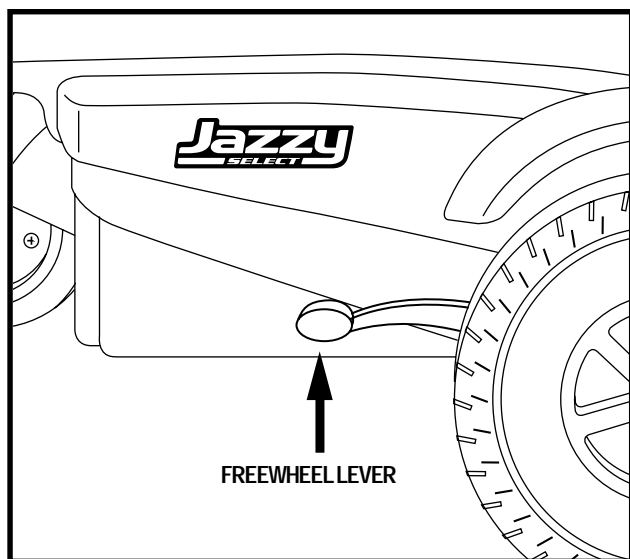

Figure 8. Drive Mode (Drive Engaged)
2. Pull both levers upward to engage the drive motors. See figure 8.
2. Make sure that the power chair is in drive mode. See figure 8.